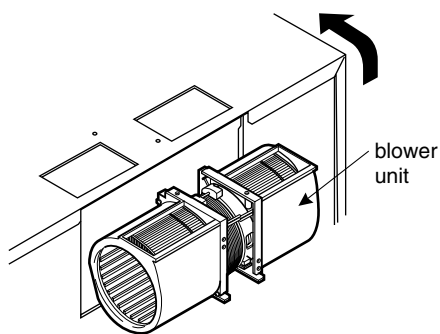

Figure 14
3. Rotate blower unit 90° turn so that the exhaust ports face the front of the unit. See Figure 14.